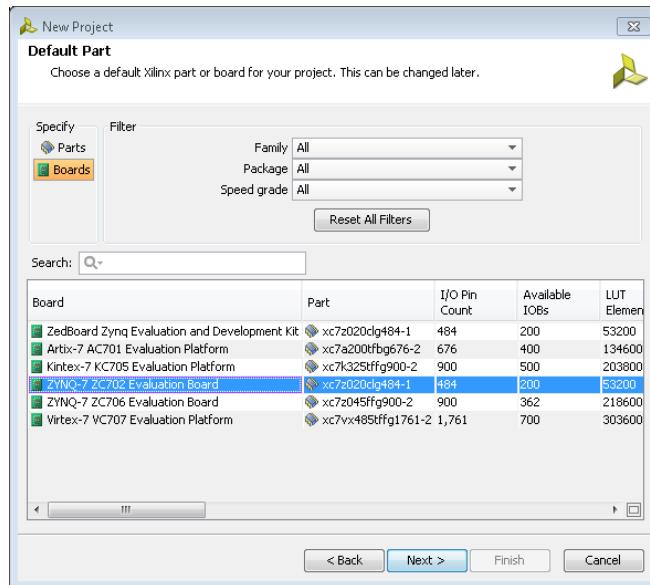

Figure 222 Specify the Vivado Project Details
- Select the ZYNQ-7 ZC702 Evaluation Board (Figure 222).